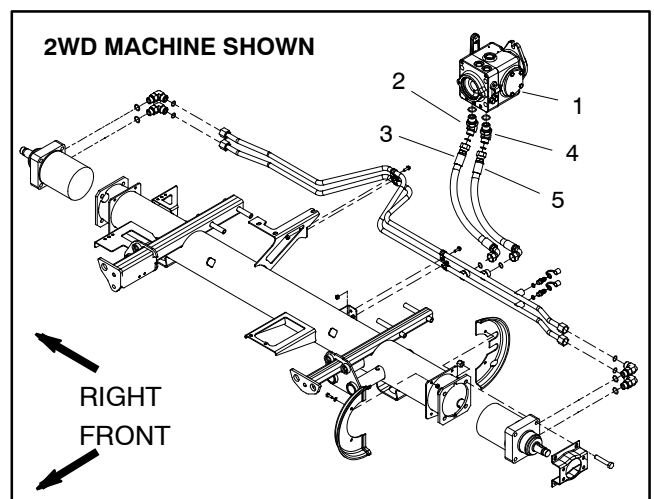

Figure 34
7. Thoroughly clean junction of hydraulic hose and **right** side elbow fitting on bottom of traction pump (Fig. 34). Disconnect hose from traction pump fitting.